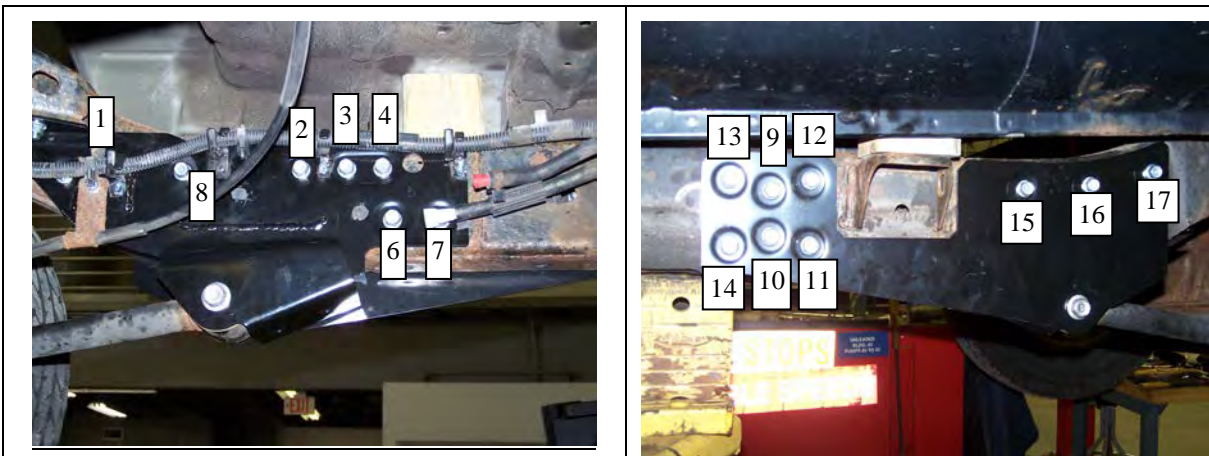

Figure 60
35. Torque bolts according to the sequence and specifications shown in Figure 60.